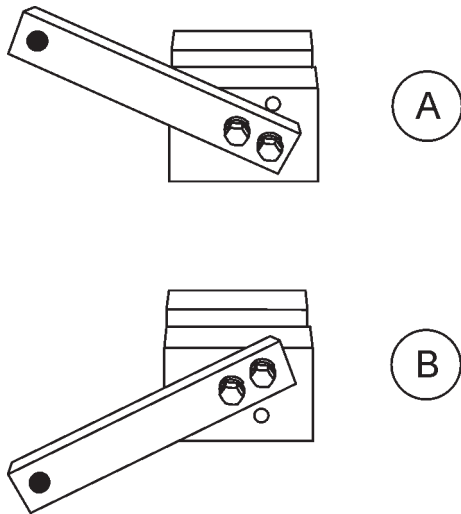

Figure 37. Trowel Arm Adjustment Setup
2. Ensure the fixture arm is in the proper setting (up or down) for your trowel arm rotation as shown in Figure 37.
Arms with **CLOCK-WISE** blade rotation use the fixture arm in the **UP** position (A in Figure 37). Arms with **COUNTER CLOCK-WISE** blade rotation use the fixture with the fixture arm in the **DOWN** position. (B in Figure 37).